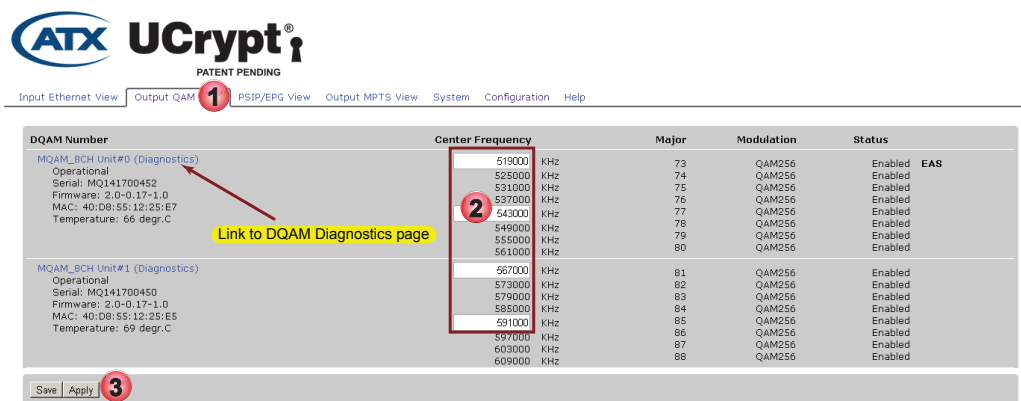
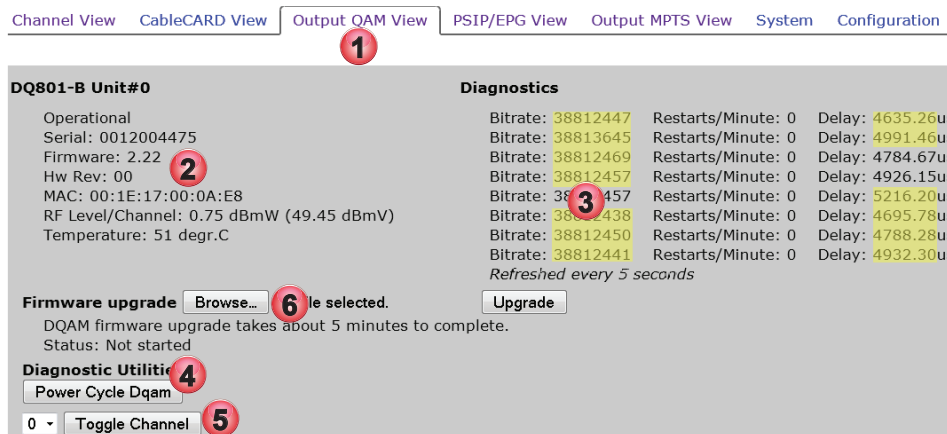

Figure 4-1: Configure Output QAM
Figure 4-2: DQAM Diagnostics Page
1. Click **Output QAM View** tab to open this page, Figure 4-1.
Table 4.1a: QAM Configuration Page (See Figure 4-1)
Status	This illustrates the activation status of each QAM channel in the group. If there has been at least one program added to the QAM modulator, (see "SPTS/MPTS Output Configuration") the modulator will automatically be enabled. If no program is assigned to the modulator, then the modulator will be disabled with no RF output.  If the modulator is associated with an EAS Force Tune Event then EAS will be shown in the status line. This is illustrated in Figure 4-1. This would indicate that when a force tune event is commanded, this modulator will be the target QAM that TV's will tune to receive the EAS Details program.
1. Access the page by clicking the **Output QAM View** tab then click the specific DQAM module link **Output QAM View > MQAM\_8CH Unit#x (Diagnostics)** see Figure 4-1. The hyperlink leads to the DQAM module diagnostics page illustrated here, Figure 4-2.
4. the **Power Cycle DQAM** button will cycle the power off then back on for this DQAM. In the image shown in Figure 4-2, it would be DQAM #0. Each DQAM module may be power cycled from it's own diagnostics page. This would be performed in an attempt to restart a module which is not responding or has stopped it's output. A symptom in this case would be that the bitrate of the channels may have dropped to zero. Using this potentially avoids restarting the whole system.